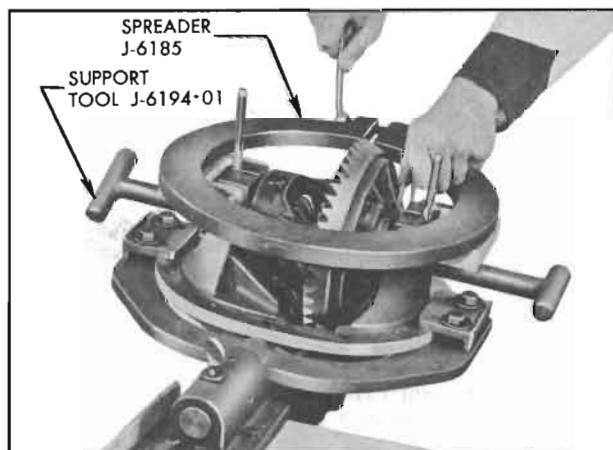

Figure 6-37—Installing Differential Bearing Shims
**CAUTION:** Do not spread pedestals any farther apart than is absolutely necessary to push differential shim into position. If pedestals are sprung too far, they may take a permanent set. See figure 6-37. Leave support tool in position until after shim is started to keep case assembly from dropping out of line.